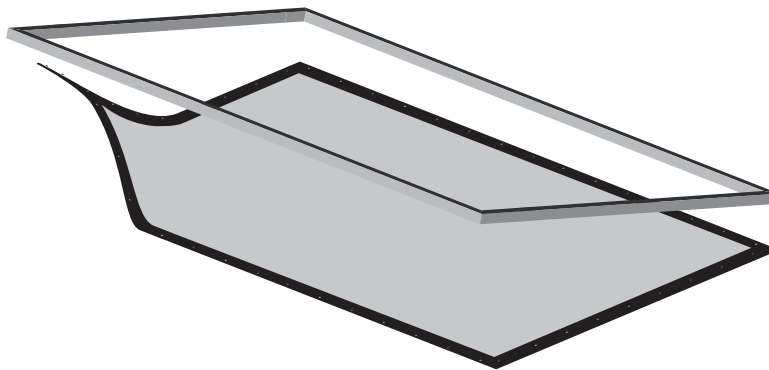

Figure 13: Attaching Top Corner Snaps
5. Starting with the snaps on the top corners and then horizontally along the top, while lifting the frame with one hand, snap the screen into the frame. Gently allow the screen to stretch onto the snaps. Do not jerk, wrinkle or crease the screen material, as it can be damaged. Refer to Figure 13.